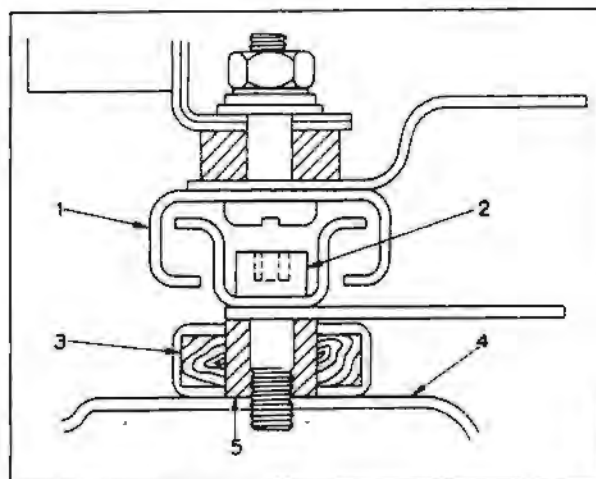

Fig. S.28.—Method of fitting bushes in hardwood blocks for fixing front seat to floor.
- (ii) Open out the holes in the existing hardboard mounting to $\frac{1}{2}$ " diameter, then press mild steel bushes into the holes, so that when the floor slides are tightened down they bear on the bushes instead of the leather-trimmed hardboard (see Fig. S.28).